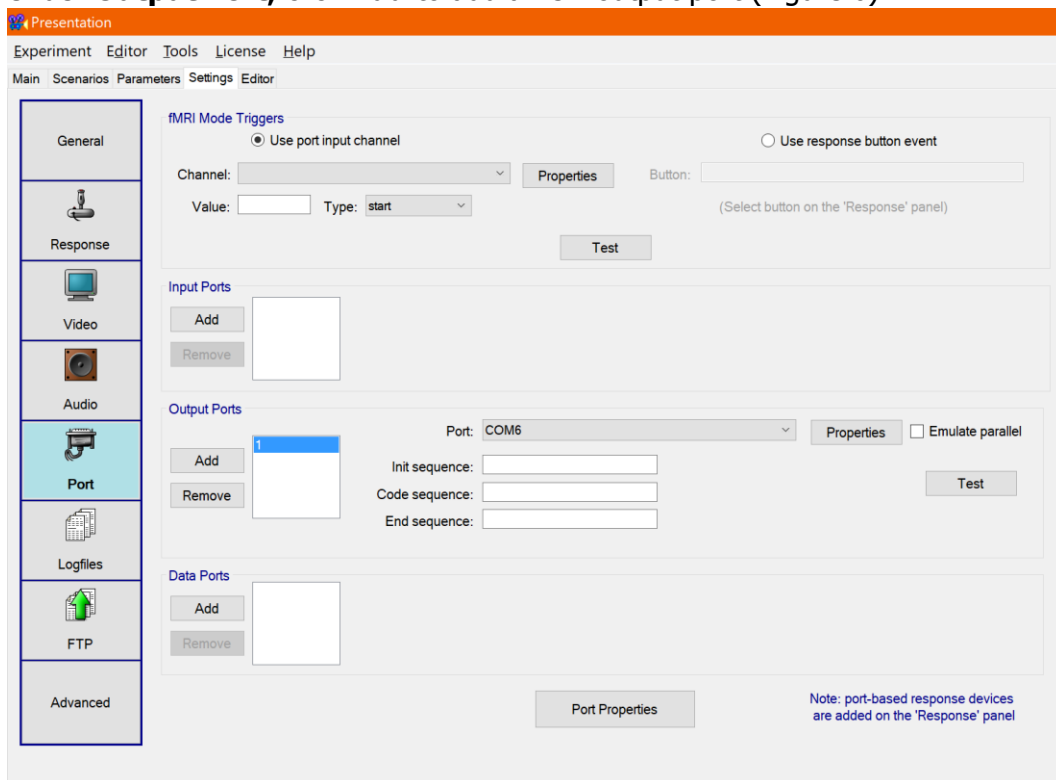

Figure 6: Presentation[®] Settings Tab
- 3) Under **Output Port**, click **Add** to add a new output port (Figure 6).